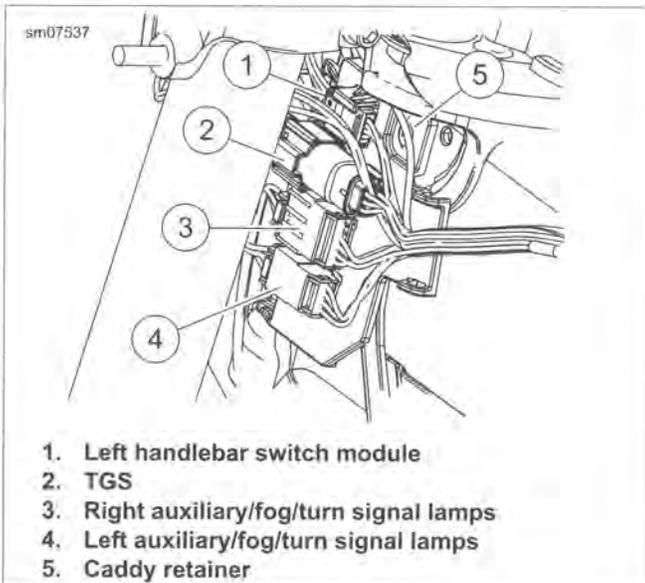

Figure 4-23. Left Side Connectors: Road King
6. **Road King models:** See Figure 4-23. Remove headlamp and handlebar clamp shroud. See 2.42 HEADLAMP NACELLE: ROAD KING MODELS. Disconnect TGS connector (2). Cut cable strap securing harness to right riser.